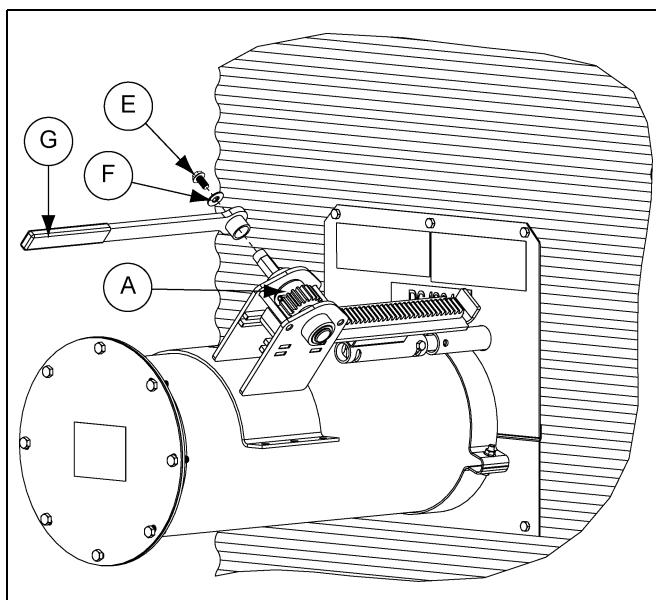

Figure 4O 8" and 10" Systems
4. Slide wrench over shaft on rack and pinion, making sure the collar faces the gears. Fasten down with 3/8" flat washer and 3/8" x 3/4" hex bolt. (See Figure 4O.)